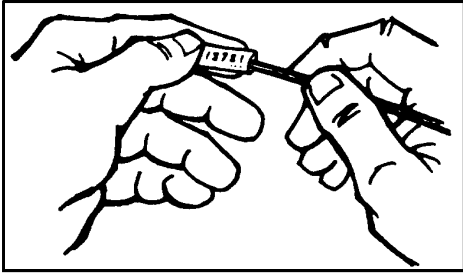

FIGURE 11-33. Inserting wire into marker.
a. Hold marker, printed side up, and press end of wire on lip of sleeve to open sleeve. (See figure 11-33.)